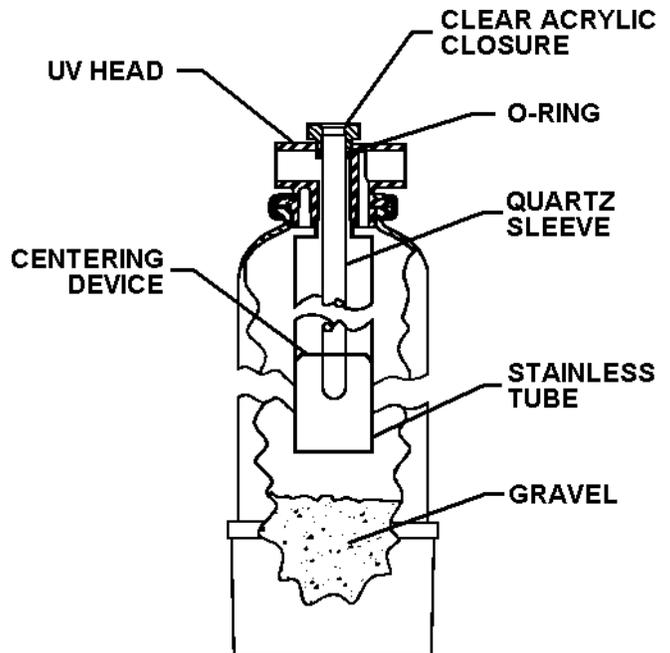

Figure 3.
6. Unscrew the clear acrylic closure from the top of the UV head and remove plug. Add approximately one (1) gallon of household bleach to the UV tank. Also terminate power to water heater, drain a few gallons and add approximately one (1) gallon of bleach directly into the heater. This bleach (chlorine) will be used to sanitize the plumbing system upon start-up. Remember to restore power to water heater after installation is complete.
8. Insert sleeve, with open end up, through the opening in the top of the UV head until it is resting on the pre-installed o-ring located about 1-1/2" down from the top of the sleeve. Carefully make sure sleeve passes through the centering device located inside the tank (Figure 3).